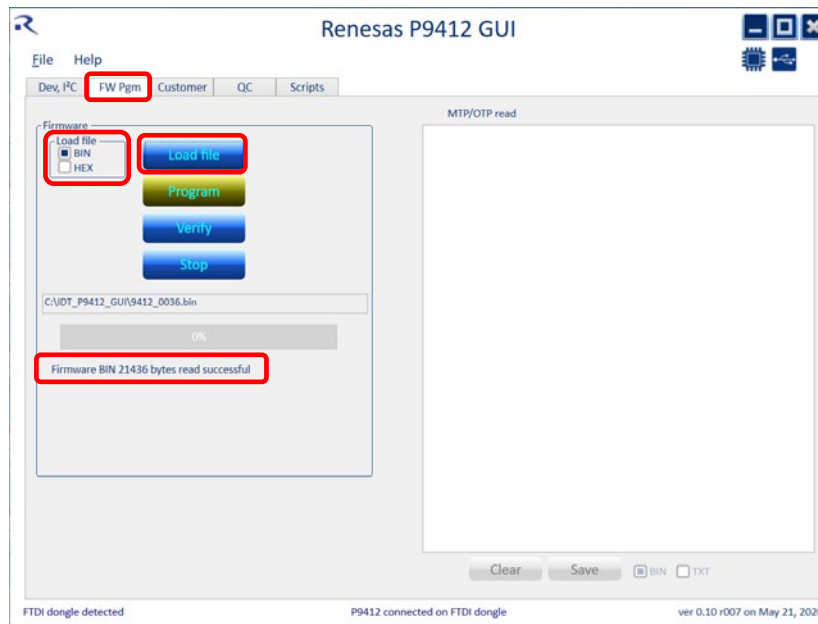

Figure 7. P9412 MTP Programming using I²C Slave Device Address 0x3C
- To update the MTP program, select the “FW Pgm” tab. Then make sure the proper file type is selected, either HEX or BIN box is checked and Press the “Load File” button, a pop-up window will appear. Navigate to the current P9412 FW *. * file and Open the file. See Figure 7, which indicates the FW file was read successfully.